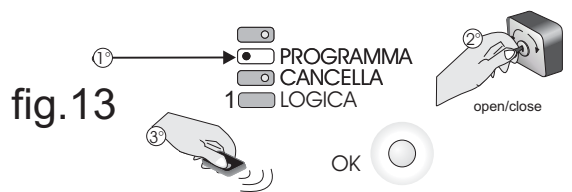

fig.13
- 1- place dip n 3 in ON position (see fig. 13)